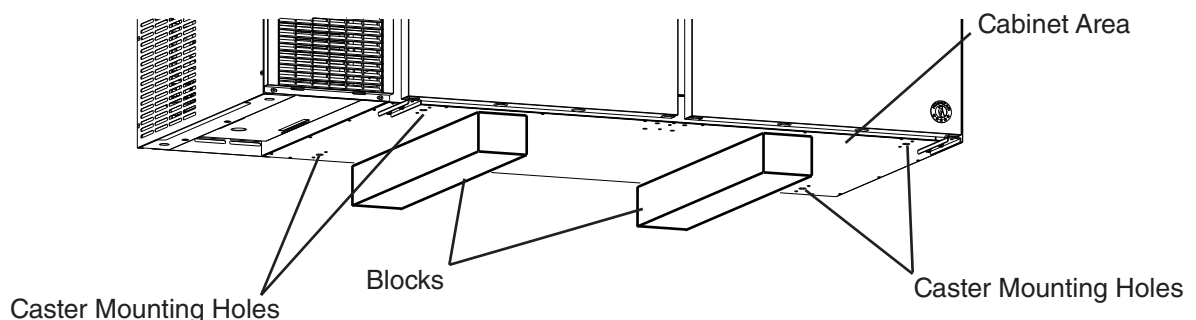

Fig. 2
2) Remove the 2 bolts securing the appliance to the pallet, then remove the appliance from the pallet. Block the appliance securely at a height of 8" (20 cm) off the floor. Place the blocks at the inside area next to the caster holes. See Fig. 2.